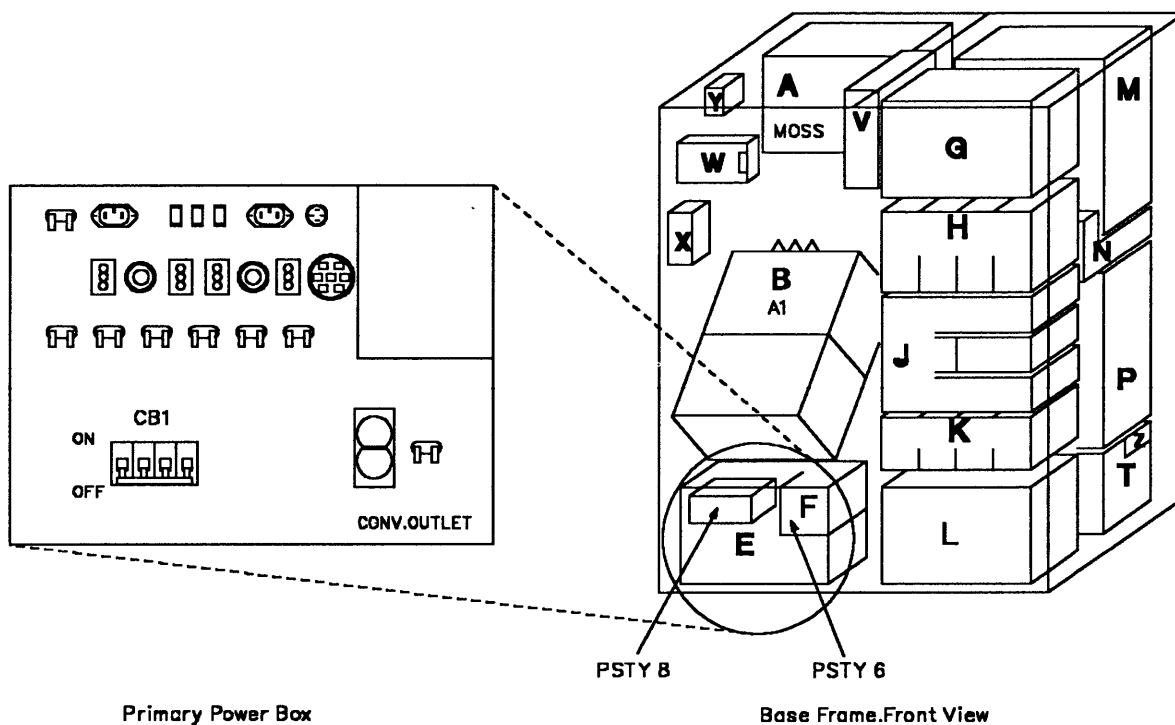

Figure 5-140. Primary Power Box
3. Switch CB1 OFF. Refer to Figure 5-140.
10. Switch the CB1 ON, refer to Figure 5-140 on page 5-139.
- a. Press the 'Power Control' key until (3) appears in the Power Control mode window (Power Control in local).
- c. Press the 'Function' key until (1) appears in the function window (function MOSS IML).
- e. Press the 'Service' key until (1) appears in the service window (service in MAINTENANCE 1).